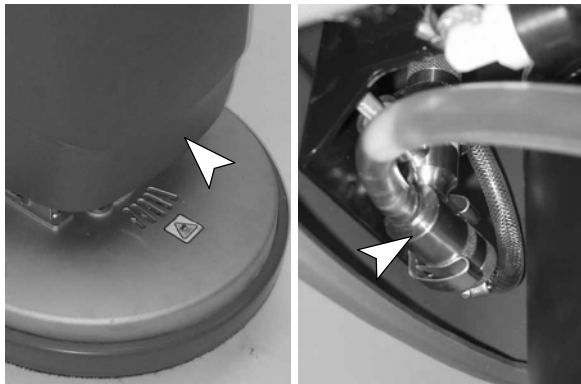

FIG. 55
1. Lower scrub head and remove the detergent injector from spring clamps (Figure 55).